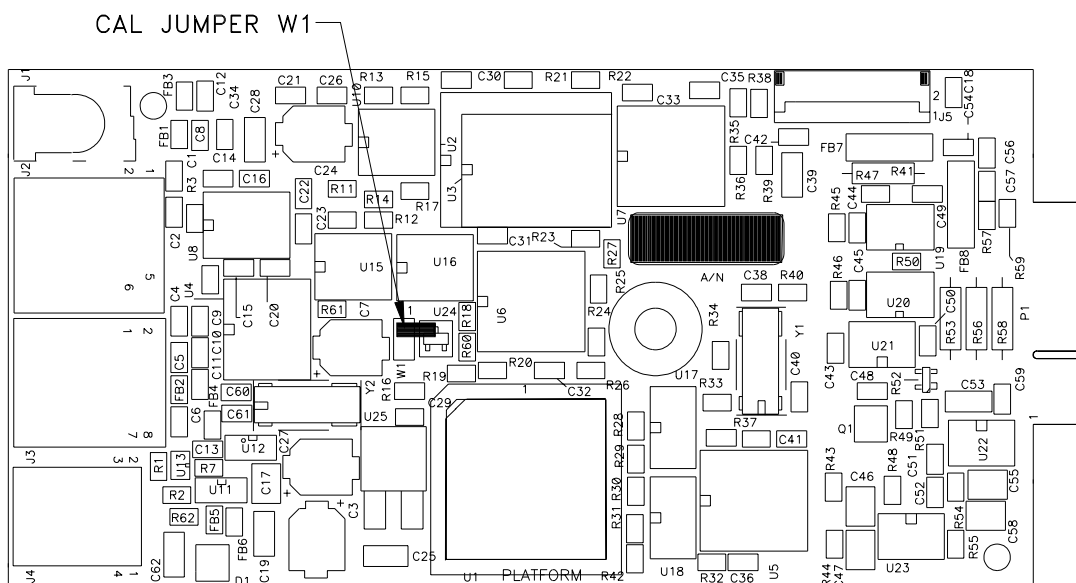

Figure 2-g: CAL Jumper on Main USB PCB
3. Remove the calibration jumper (W1 in Figure 2-g).